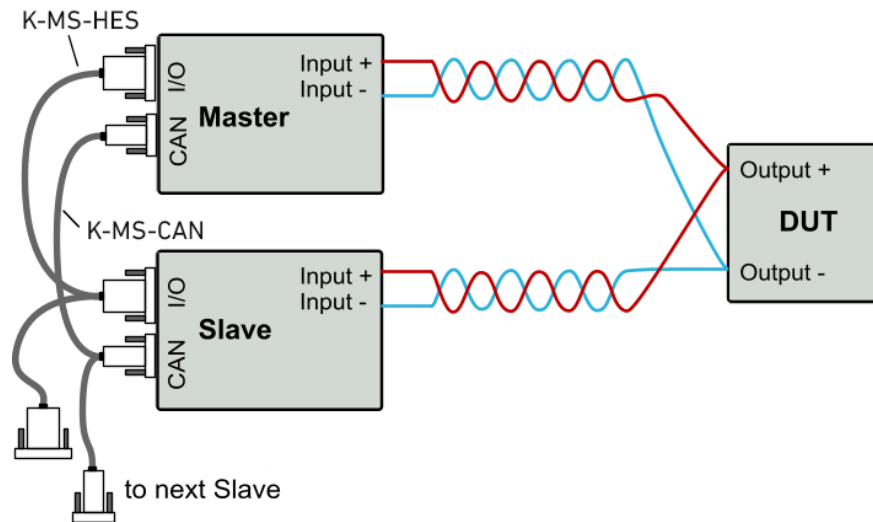

Figure 4.22: wiring in master-slave mode
5. Connect the load inputs of all system units to the test object as shown in Figure 4.22 twisted. Run the cables of all system units to the test object; do not connect them to the system units!